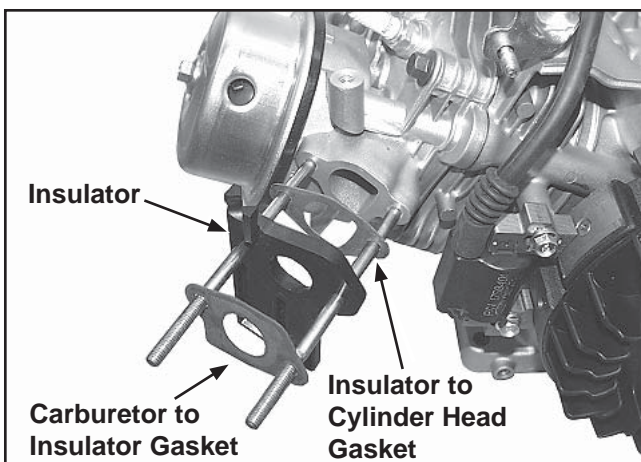

Figure 11-57. Carburetor Spacer and Gaskets.
1. Install a new insulator to cylinder head gasket onto the carburetor studs, followed by the insulator and the carburetor to insulator gasket. See Figure 11-57.